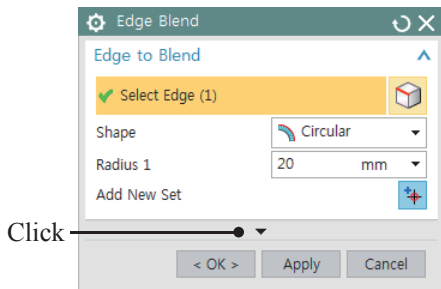

Fig 6-16 More Button
6. Click the **More** button to expand the dialog box as shown in Fig 6-16.